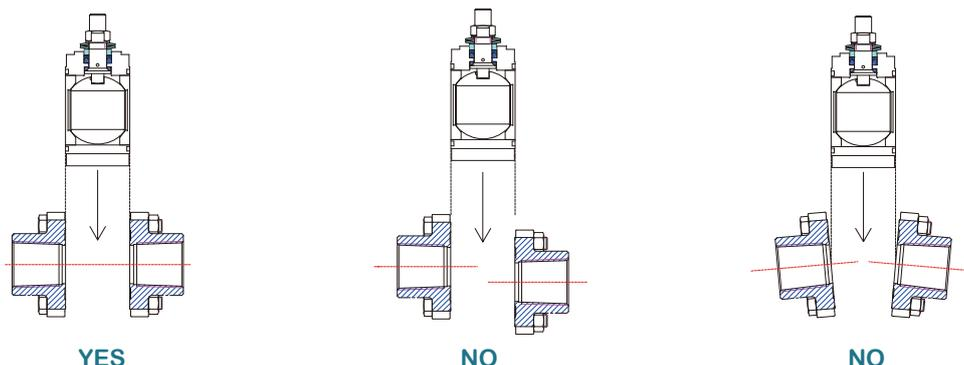

Fig.4
- Make sure that the connection ends are aligned. Complete the welding of both connection ends to the pipe. Carefully place the open ball valve (body) between the cleaned and cooled connection ends. Make sure that the joint gasket is not scratched against the connection ends, which may cause leakage during operation (See Fig.4).